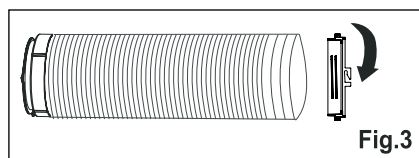

Fig.3
2. Extend the other side of the hose and screw it to connector B (Fig. 3).